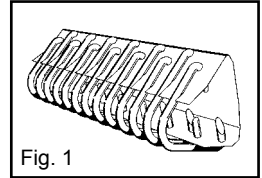

Fig. 1
1. Removed prior to installation (see Fig. 1). Hook sizes 25, 1, 2, 3, 4, and 4-1/2 RHTX.